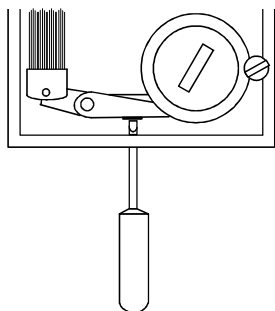

Figure 1
3. Twist the setpoint knob until you find the switching point. If the switching point value is higher than the measured actual value, the calibration screw should be screwed clockwise. If the switching value is lower than the measured value, the screw should be screwed counter-clockwise. The calibration screw is reached through the slits at the lower end of the humidistat using a narrow screwdriver. See fig 1. Adjust the calibration screw until the switch switches when the setpoint knob is set to the actual measured humidity.